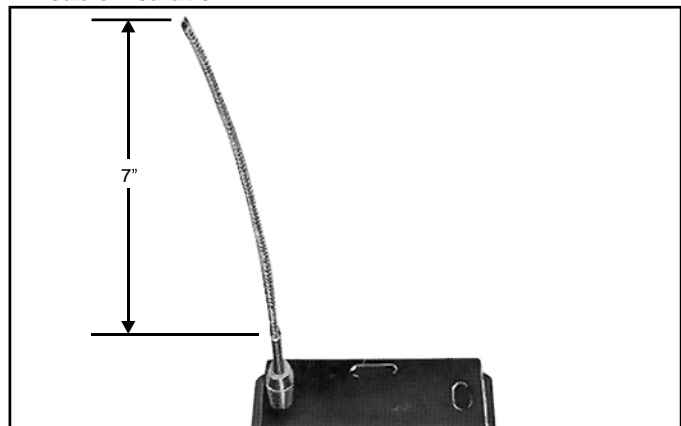

Figure 5
Score the outer insulation seven (7) inches from the end of cable. Remove the jacket to expose the metal braid. See Figure 5. **WARNING: Do not damage the braid or the base cable insulation.**